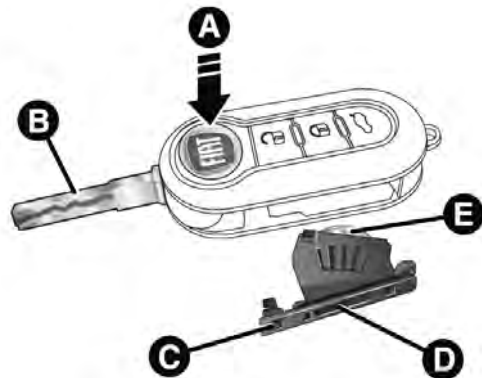

Fig. 16
- press button A fig. 16 and open the metal insert B;